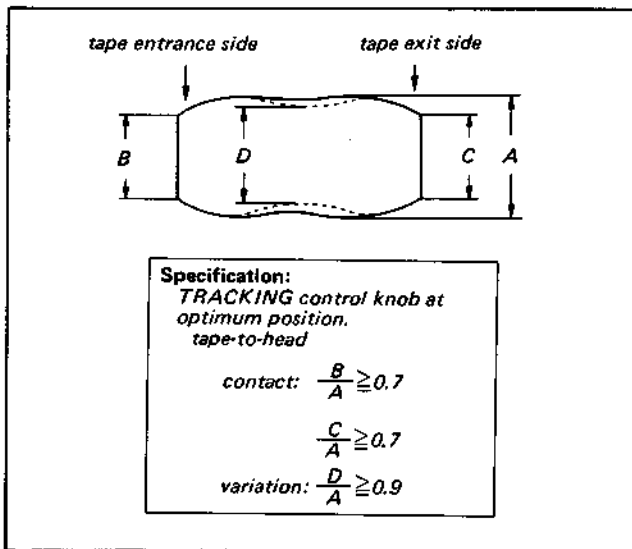
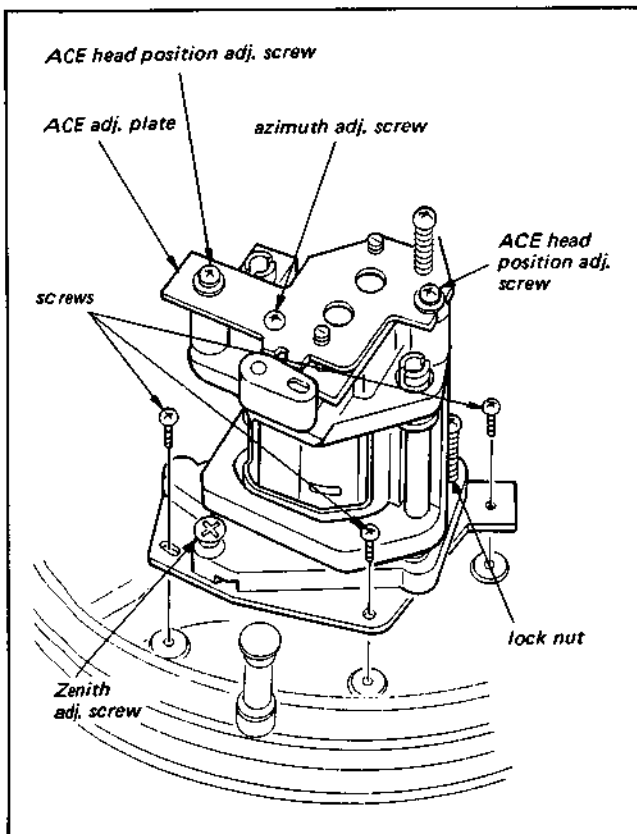

Fig. 3-46. Adjustment of tape path
Fig. 3-49. Removal of ACE assembly
5. Confirm that the fluctuation and the tape-to-head contact satisfy the specification shown in Fig. 3-46. If they do not, perform Step 6 for the adjustment.
- The ACE assembly can be removed if the three screws shown in Fig. 3-49 are removed.
- Play back the 1 MHz segment of the alignment tape (KR5-1H). Confirm that the RF wave output (see Fig. 3-46) satisfies the specification and there is a minimum curl (not more than 2 mm) on the tape edge contacting the tape guide. Confirm that the RF waveform varied from the flat state when the tape guides (E) and (F) are raised and adjust the heights of the tape guides so that the waveform output becomes flat.
- When the waveform does not vary if the tape guides (E) and (F) are raised in Step 4 or when the waveform does not become flat if the tape guides are lowered, perform the adjustment, following the procedure below.
- Loosen the lock nut shown in Fig. 3-49.